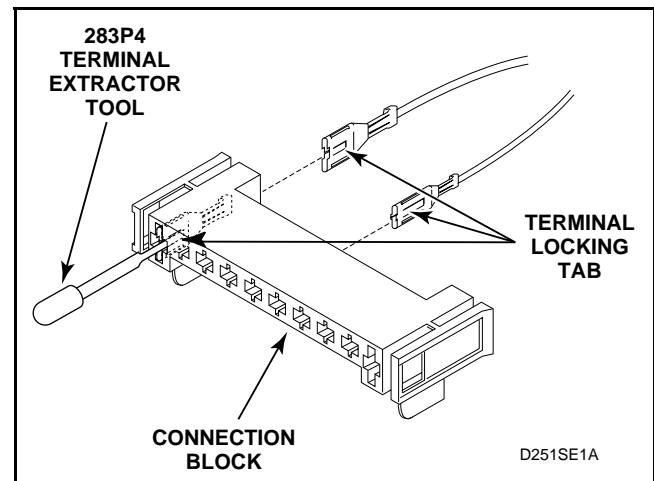

Figure 25
- (1.) Insert the tool into the block on the back of the terminal being removed. See *Figure 25*.
- (2.) Apply tool pressure to compress the terminal locking tab on terminal and force the terminal and wire out back side of connection block. See *Figure 25*.